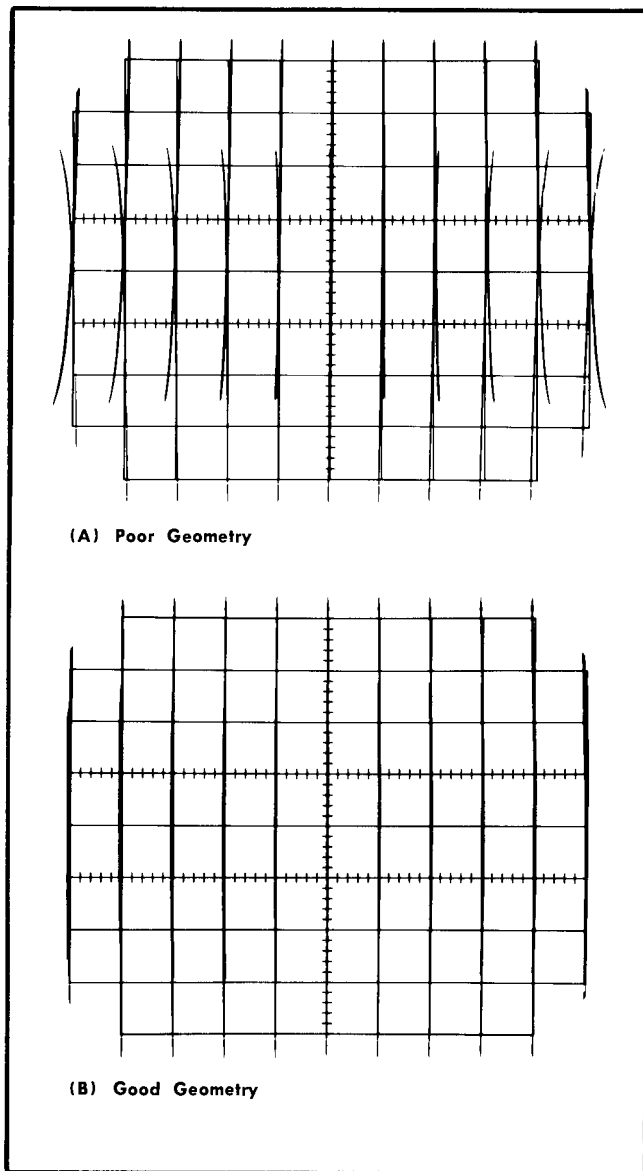

Fig. 5-3. Typical CRT displays showing (A) poor geometry adjustment; (B) good geometry adjustment.
- c. Apply 1-millisecond markers from the time-mark generator (item 4 of Recommended Equipment) through a BNC T connector, two 50  $\Omega$  cables and 50  $\Omega$  terminations to the Type 1A1 vertical inputs of both plug-ins.
- j. Check—Maximum deviation of the traces from vertical graticule lines should not exceed 1 mm. See Fig. 5-3 for examples of geometry adjustment.